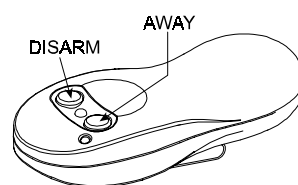

Figure 25. MCT-132 / 102
D. MCT-132 / MCT-102 (Fig. 25): 2-button units. MCT-132 (CodeSecure) Can perform functions as shown. MCT-102 (PowerCode) can perform emergency and non-alarm functions. Both units look alike.